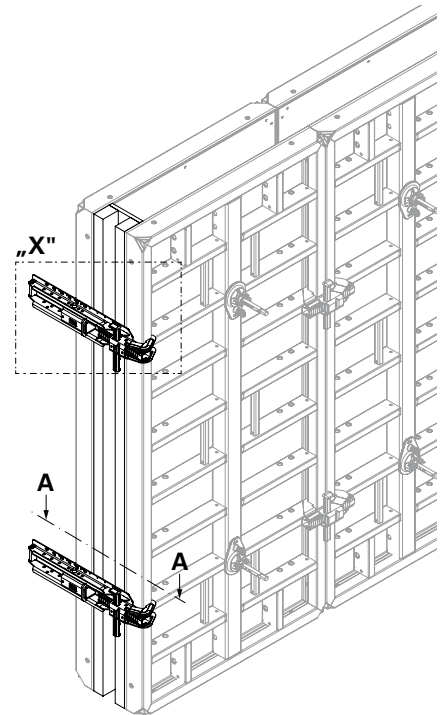

Fig. B10.02
- Perm. fresh concrete pressure 60 kN/m2 (Fig. B10.02 + B10.01b)